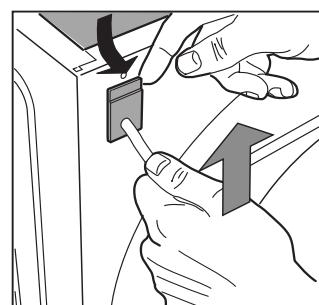

Fig. 5
- Remove the upper part of the cord lead slightly from the back panel of the appliance, pull the power supply cable upwards and take it out [fig. 5].